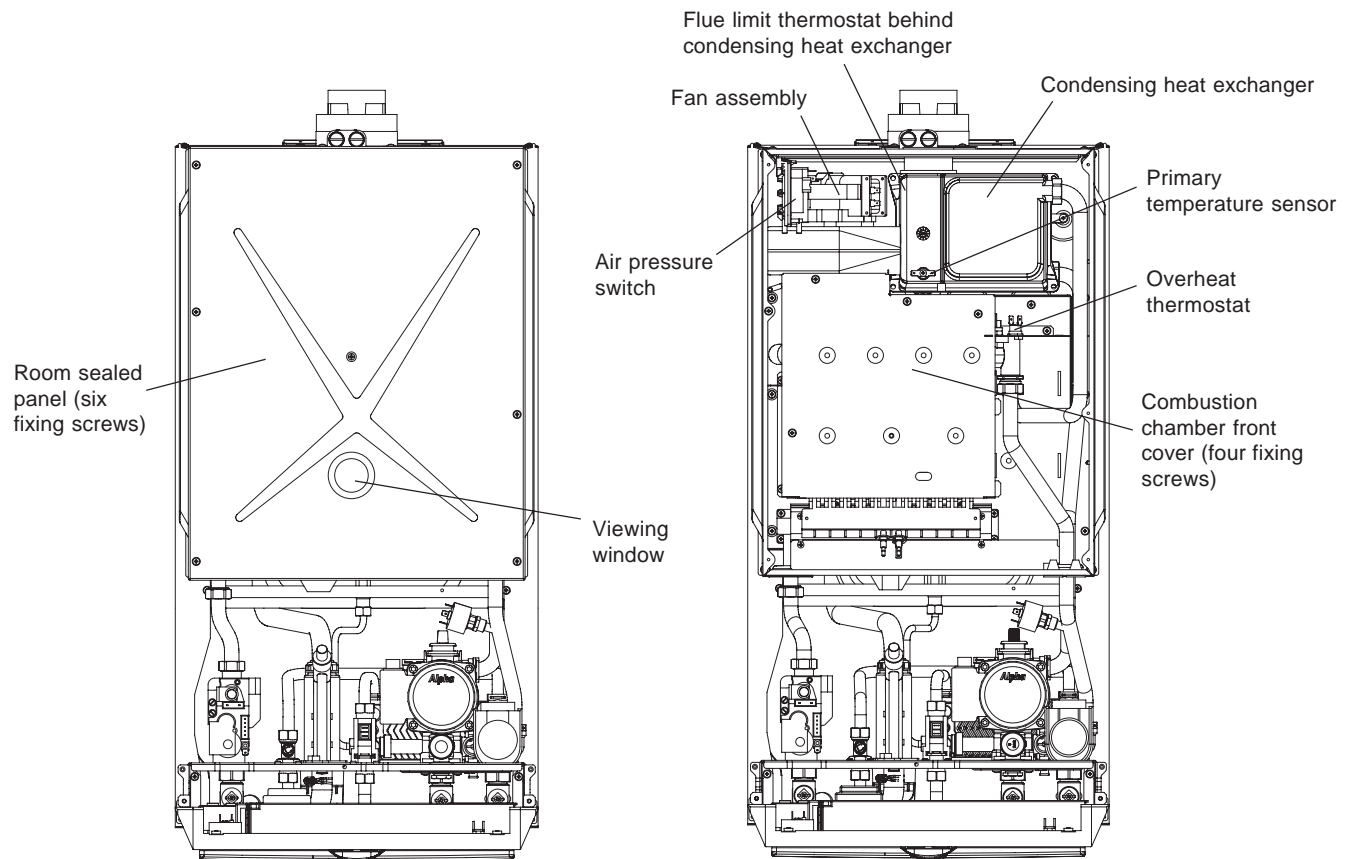

Fig. 24
7.2 PREPARE FOR SERVICING - Fig. 24
6. Place the front case panel in position as shown in Fig. 24 and secure in position.
8.1 GENERAL ACCESS - Fig. 24
2. **To gain access behind the casing** - Lift the case front panel upwards slightly and pull it forwards to remove it from the boiler (see Fig. 24). If required, remove the side panels by removing the bottom fixing screw and lifting forwards and upwards.
8.7 FAN - Fig. 24